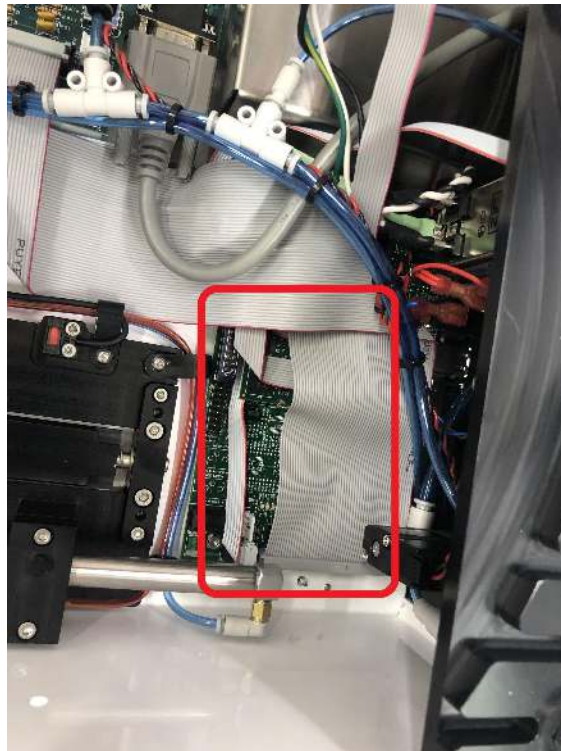

Figure 1.
2. Locate carrier board, half of the board will be hidden by wiring (see Figure 1 below).